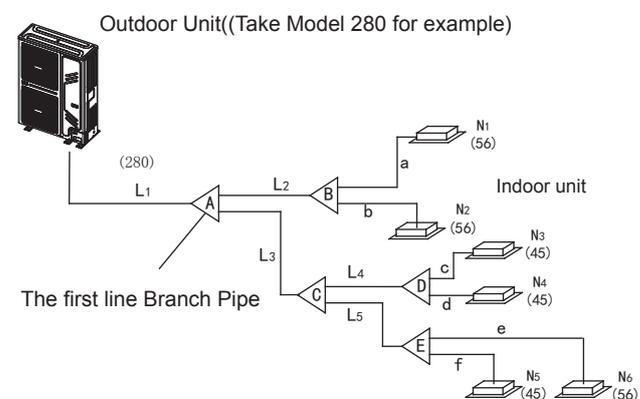

Fig. 4-6
- Main pipe (Please refer to Fig.4-6 and Table 4-4)
In Fig.4-6, the main pipe L1, the outdoor unit capacity is 28kW, and check the Fig.4-6 to get the size of gas pipe/liquid pipe is $\Phi 22.2/\Phi 9.5$, and also the total equivalent length of liquid side and gas side pipes is $> 90\text{m}$, then check the Table 4-4 to get the size of gas pipe/liquid pipe is $\Phi 25.4/\Phi 12.7$, and according to the maximum value principle, it should apply the $\Phi 25.4/\Phi 12.7$.